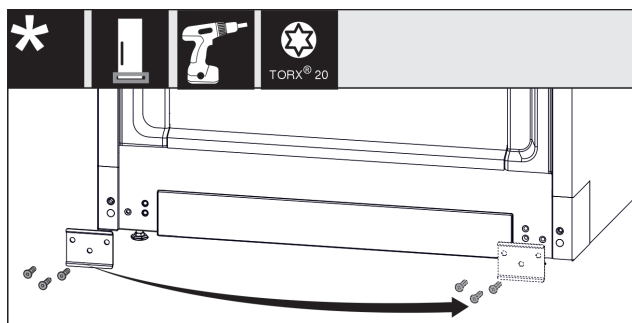

Fig. 19
- Unscrew the plate Fig. 19 (1), move it to the other side and screw it back on.